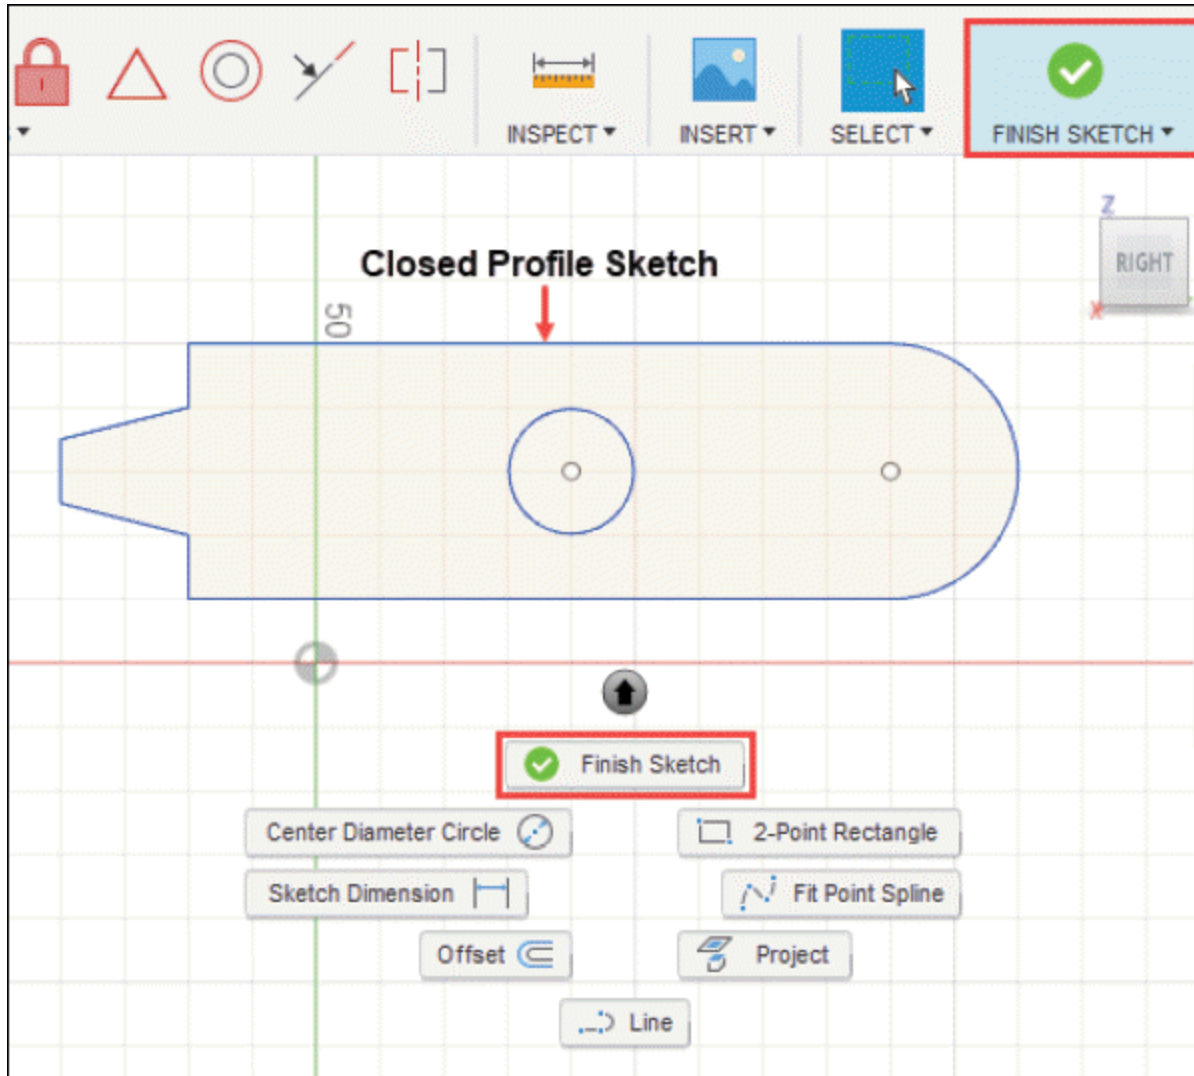

Figure-29. Sketch for extrusion
- After creating sketch, exit the sketch environment by selecting the **Finish Sketch** tool from **Toolbar** or **Right-click** outside the sketch and select **Finish Sketch** button from the **Sketch** drop-down in **Marking menu**; refer to Figure-29.
- The **Extrude** option is selected by default in the **Type** section of the dialog box and the profile selection is active by default. Select the sketch to be extruded by clicking on the shaded area in the sketch. If your sketch has multiple closed profiles then make sure to select correct shaded area. For example, in Figure-29, we can select inside the circle, outside the circle, or both to create extrusion. The extruded body will be of the shape selected here.